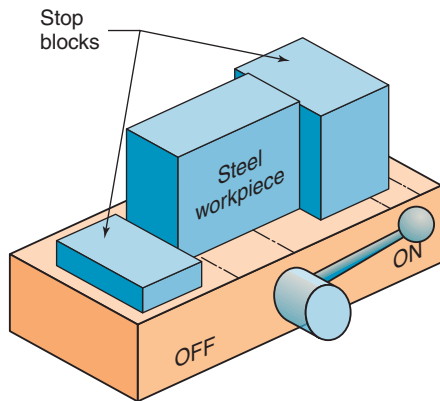

Figure 13-84 How can this setup be improved?
16. What's wrong with this surface grind setup shown in Fig. 13-84?